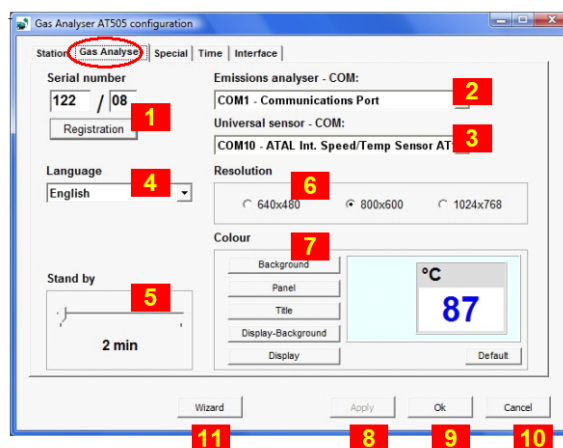
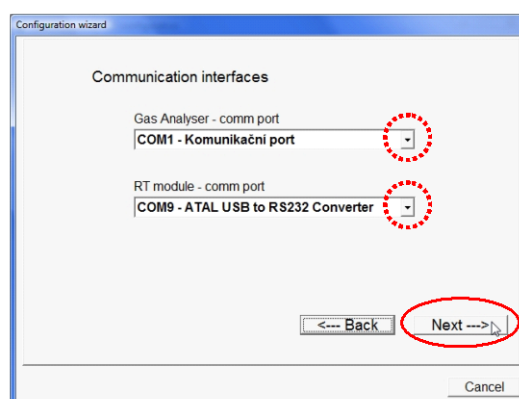

Fig. 16 – The configuration screen (Gas Analyser) where you can change the necessary values
Fig. 22 – Communication ports setup for the Gas Analyser and the Speed / Temperature Sensor module (performed by the user)
See Fig. 16 - Entering the data necessary for measuring the emission test
Note to Fig. 16:
The Wizard (see Fig. 16, pos. 11) starts automatically when the configuration utility is ran for the first time.
Note to Fig. 22:
Remove the testing device and plug in the analyser. **It is important to set the detected port number** for the analyser in the **Configuration Program** (for starting the program see Chap. I - 8.1.1 and Fig. 16 - note 2) or in the **Program Configuration Wizard** (see Chap. I - 8.1.6, Fig. 22).